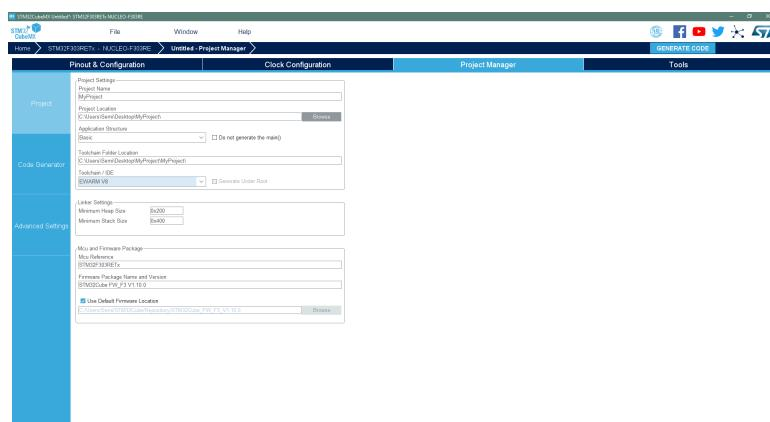
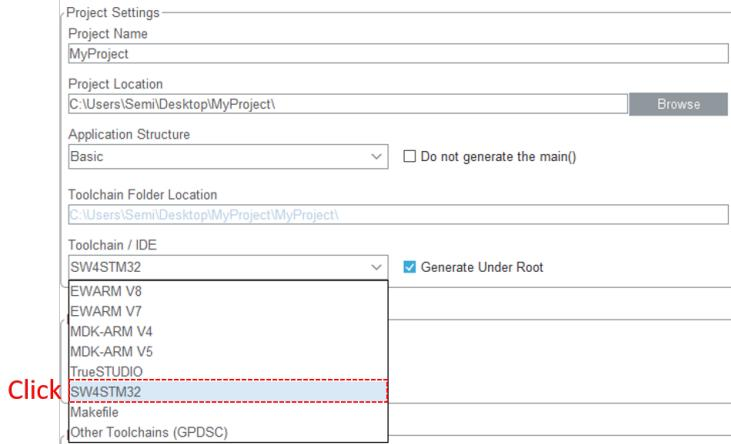

Figure 3.7: Project Manager interface [3].
Figure 3.8: Choice of the compiler [3].
- Then, go to the *Project Manager* section shown on the fig. 3.7, and specify the project name, the path where you want to create the project, and the compiler which is not missing the compiler *EWARM V8* but which must be changed to have the compiler *SW4STM32* as shown on the fig. 3.8 ;